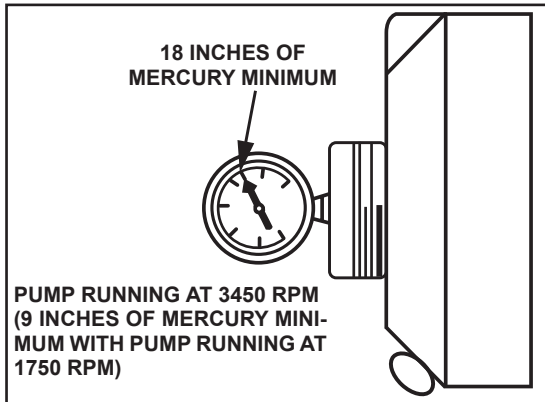

FIGURE 4.
- Shut off power source to pump. Shut off valves to and from pump. While observing all safety precautions for the liquid being pumped, disconnect suction and discharge lines and drain the pump completely. Fill the pump with water. Install a vacuum gauge in the suction port (see figure 4). Turn on power source. Vacuum should exceed 18" of mercury when pump shaft is rotating at 3450 RPM and should equal or exceed 9" of mercury with pump shaft rotating at 1750RPM. If vacuum is below these values, check the following:
- Check for worn impeller and/or volute. If necessary, replace these parts. (See items 14 and 15 of section V).